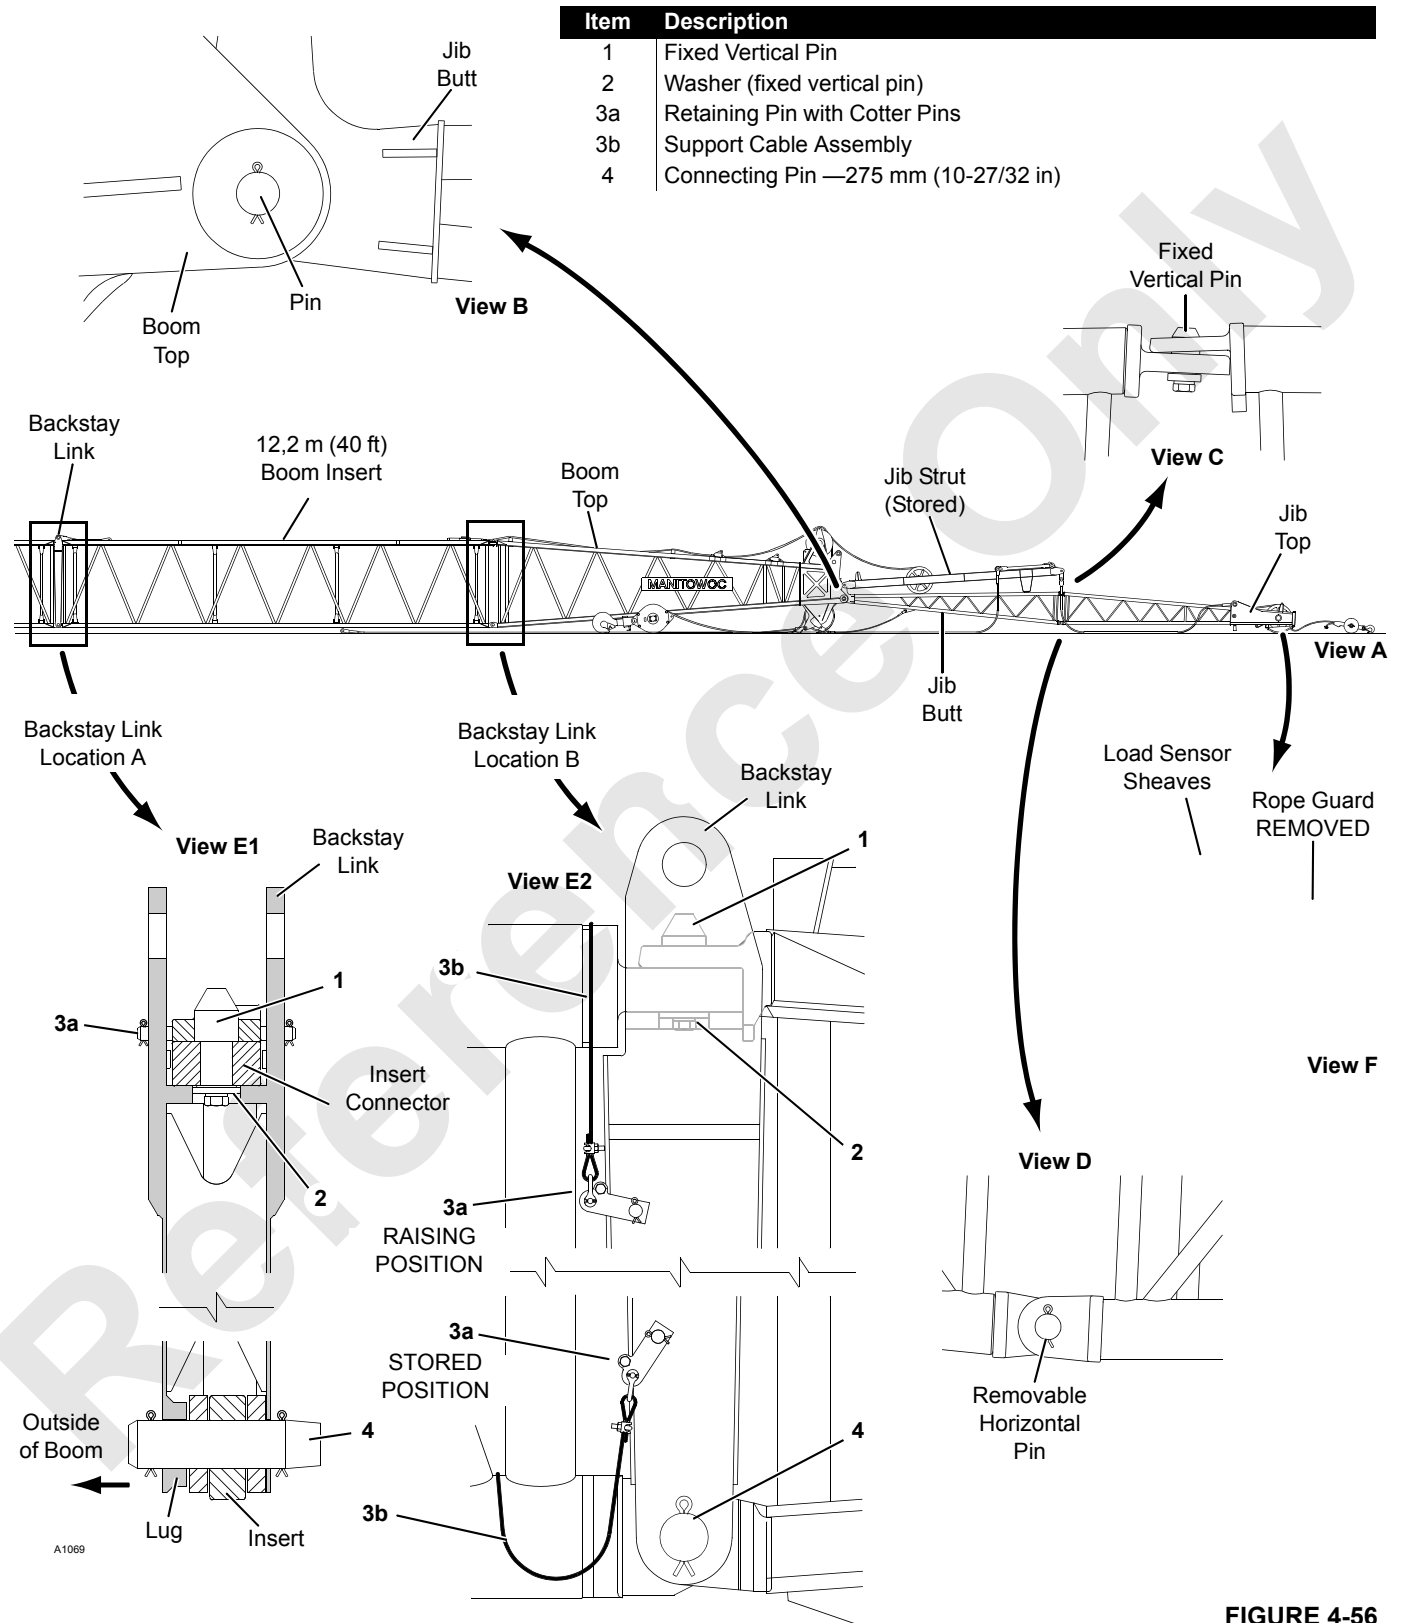

FIGURE 4-56
- See Figure 4-56 for the boom length and suspended weight limitations.
See Figure 4-56 for the following procedure.
See Figure 4-56 for the remaining procedure.